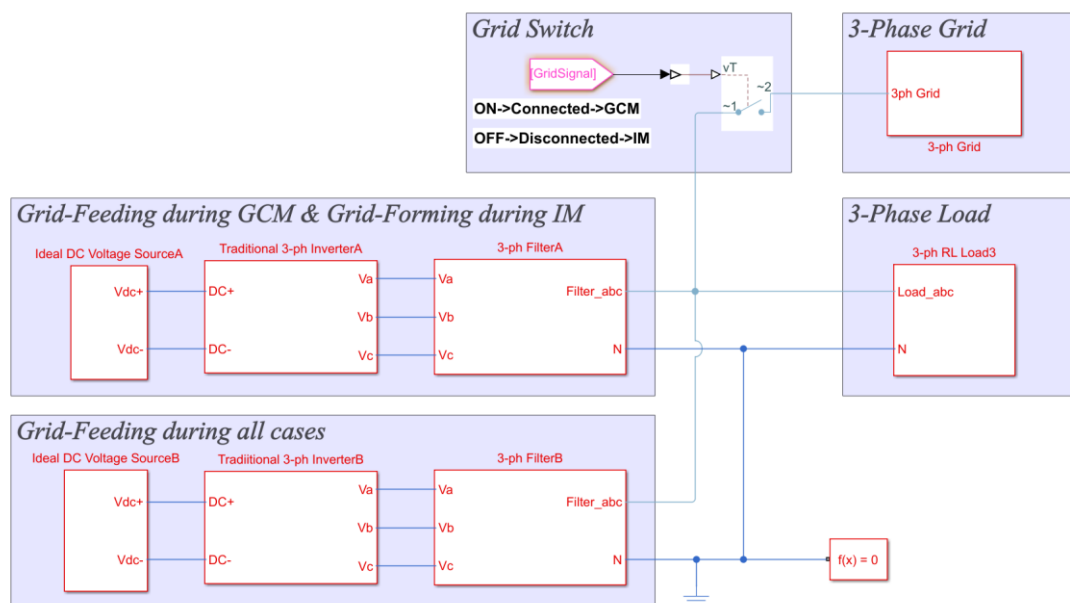

Figure 5. Grid-connected Mode and Islanded Mode Switch block diagram.
1. The inverter one must have the ability to automatically switch between grid-connected and islanded mode during live operation, when the grid-network bus is connected or disconnected to the microgrid. Note that you should include a signal to detect the connection status of the grid-network bus to determine the operating mode of the inverter. A high-level block diagram of for this task is shown in Figure 5.